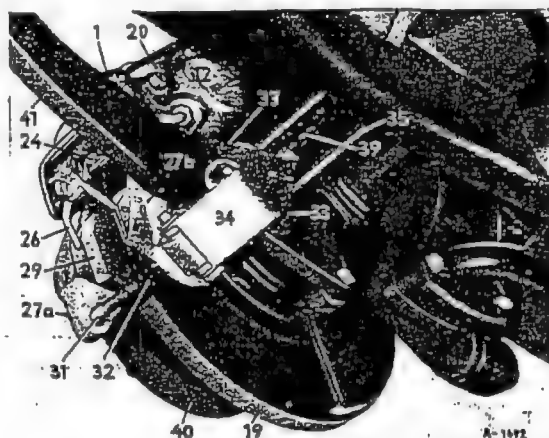

Fig. 42-19/6
4. Bend the brake cable (39) upward and detach it from the hook of the tension lever (34) (Fig. 42-19/6).